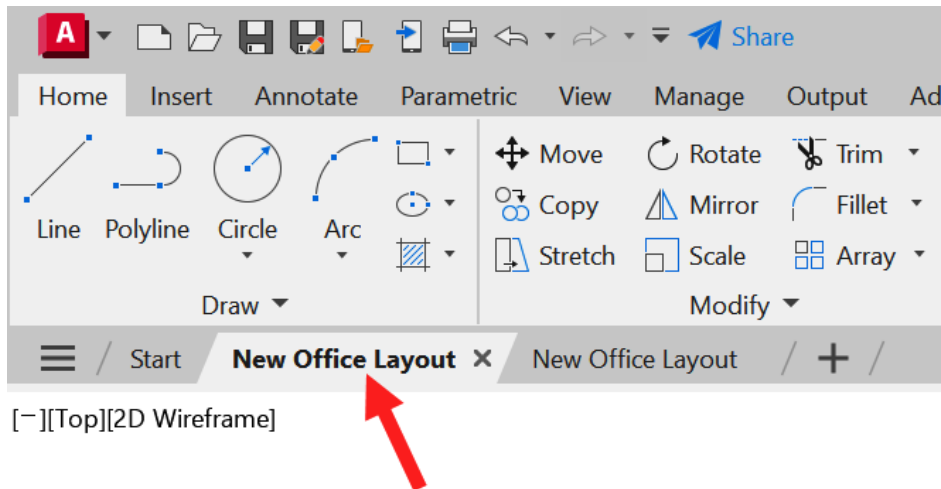

Figure 15.5: The file tab of the local DWG file is made current
2. You will now have *two* file tabs in AutoCAD that read the same. Take care to note which is which at this point. Click on the file tab for the locally saved DWG file first, as shown in *Figure 15.5*. In this case, the local file is the *left-hand* file tab, and you need to click on this file tab to make it the current DWG file.